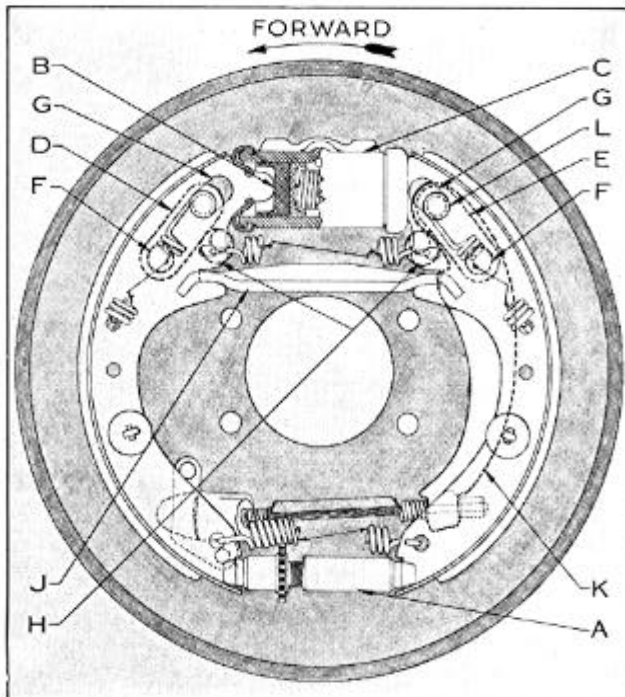
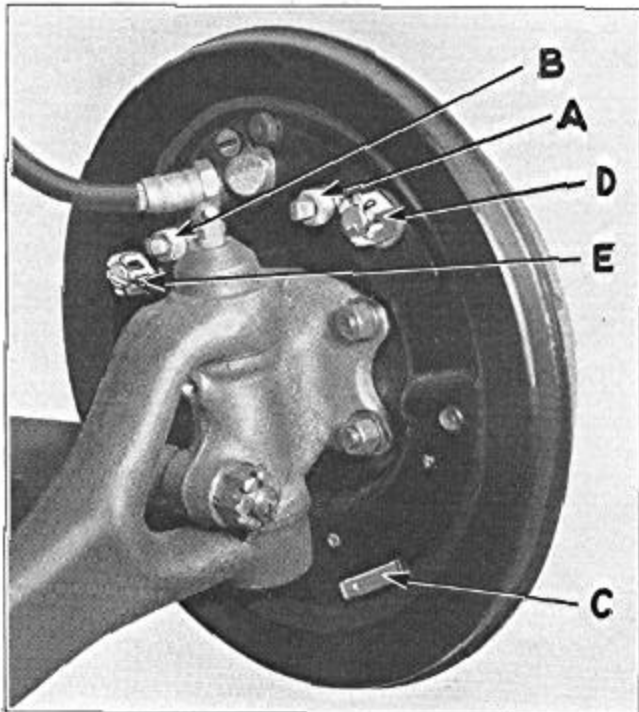

Fig. 15
Fig. 16
In the Hudson type brake the primary shoe is hinged to the secondary shoe by means of an adjusting screw or star wheel link (A), Figure 15. This arrangement allows the reaction of the primary shoe to move the secondary shoe against the drum. Servo-action is equally effective in both forward and reverse directions of drum rotation.
The brake shoes in this type of brake are direct acting in that the upper ends of both primary and secondary shoes rest against the wheel cylinder pistons without any links in between them (Point "B" Figure 15). This places the cylinder (C) higher up on the backing plate so that no portion of the shoe overhangs the point of application.
An expanding bar (J, Figure 15) is placed between the rear shoes just under the cylinder and acting parallel with the cylinder. This bar is actuated by a lever (K) which is pivoted on the secondary shoe anchor link at (L). The parking brake and secondary brake mechanisms are connected to these levers in the rear wheels only, by cables operating through an equalizer arrangement. The rotary action of the equalizer, when the brake pedal or hand brake is applied, actuates the cables in an absolutely equal movement at equal pres-
- 2—Loosen lock nut on primary shoe eccentric adjustment (A, Figure 16) and turn eccentric in direction of forward wheel rotation until wheel can just be turned by hand. Then turn the eccentric very slowly in the opposite direction until the drum is just free of lining drag. Hold eccentric in this position and tighten lock nut.
- 3—Loosen lock nut on secondary shoe eccentric adjustment (B, Figure 16) and turn eccentric in direction of forward wheel rotation until wheel can just be turned by hand. Then turn eccentric very slowly in the opposite direction until the drum is just free of lining drag. Hold eccentric in this position and tighten lock nut.
- 4—Remove the adjusting hole cover (C, Figure 16) and by means of Tool HM-13985, expand brake shoes tightly against drum by turning star wheel. NOTE: Moving the outer end of tool toward the axle expands the shoes and in the opposite direction releases the brake shoes.
- 15—Remove, clean and inspect all drums and shoes. Remove anchor links (D) and (E), Figure 15, from backing plates. After all brake parts are thoroughly cleaned, apply a thin film of Bendix Lubri-plate (Grease) to parking brake cable ramps, shoe support ledges on backing plates, eccentrics, and to the side of the anchor link which rests against the backing plate reinforcement; and all other moving or frictional contact points. Replace anchor links and adjust nuts (D) and (E), Figure 16, so that links are free to turn with all side play removed. Secure nuts with cotter pins.
- 19—Push cable into conduit and after shoes have been reinstalled, connect cable to shoe-operating lever (K), Figure 15, leaving adjustable yoke end of cable disconnected. To connect brake cable to shoe operating lever, move cable return spring away from cable end and place cable end into groove at end of operating lever.
- 21—After reinstalling shoes and shoe parts, remove adjusting hole cover (C), Figure 16, from backing plate at each wheel and back off on star wheel.